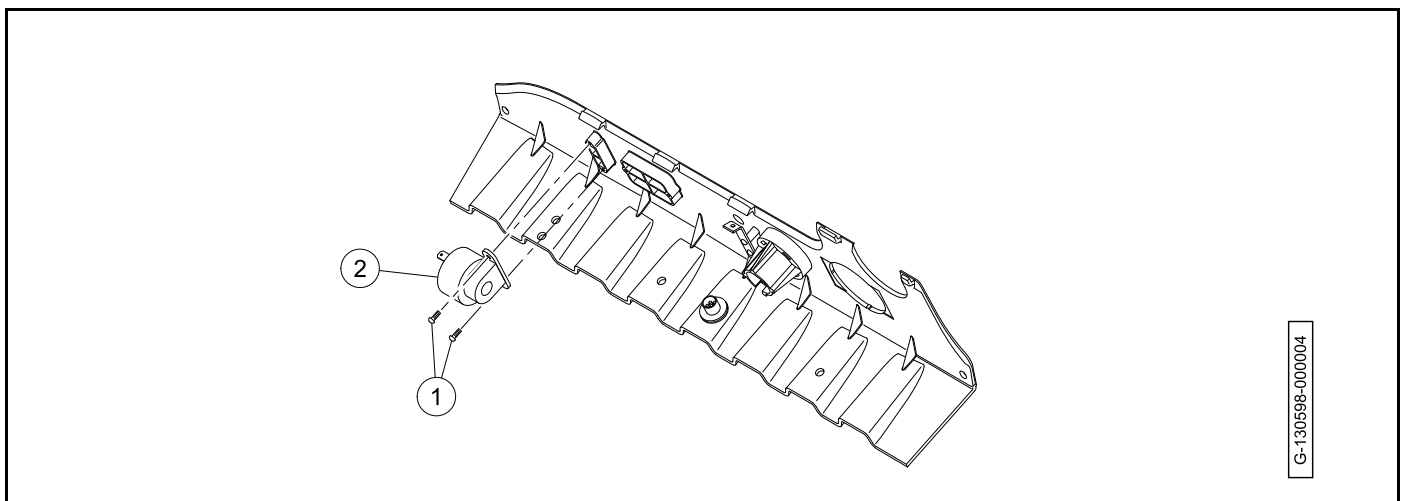

Figure 13-15 Multi-Purpose Buzzer
6. Remove the screws (1) (Figure 13-15, Page 13-17).
1. Install the multi-purpose buzzer (2) with the screws (1) (Figure 13-15, Page 13-17). Tighten the screws to 4 lb·in (0.45 N·m).